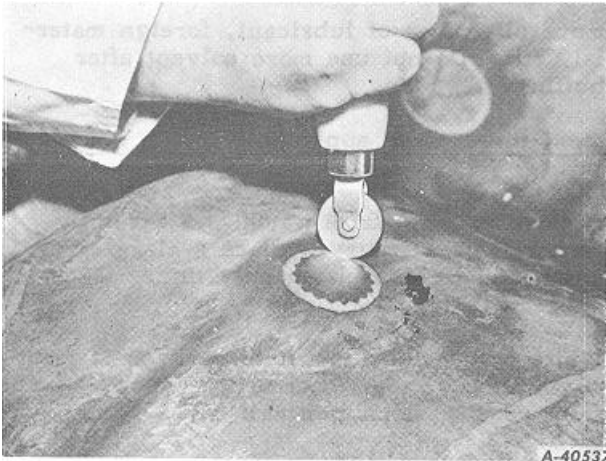

Fig. 19
9. Remove backing from patch base and place patch over injury. Press down firmly, especially at the edges, for good adhesion (and easy removal of paper cover) (Fig. 19).